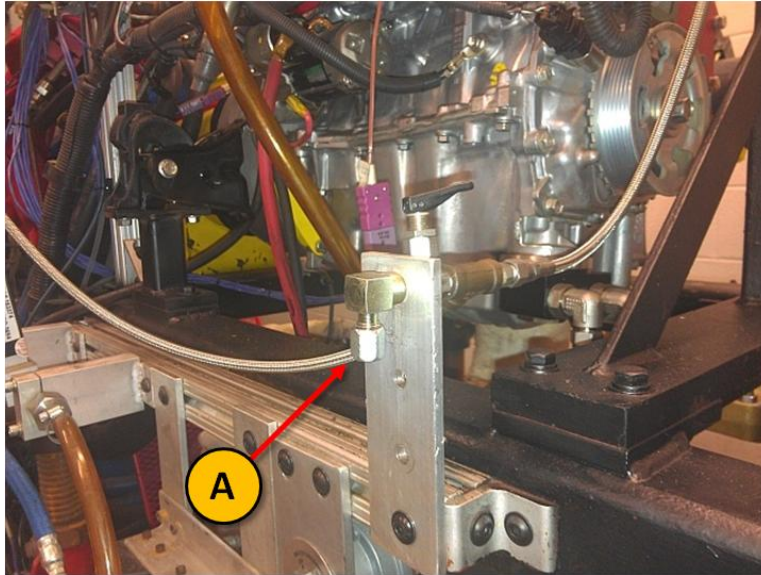

Figure 15. Oil sampling port
- 5.2. Refer to Figure 15. Uncap the oil sample port. Using a graduated cylinder, draw the 240 ml purge oil sample by pushing on the valve at the oil sample port.